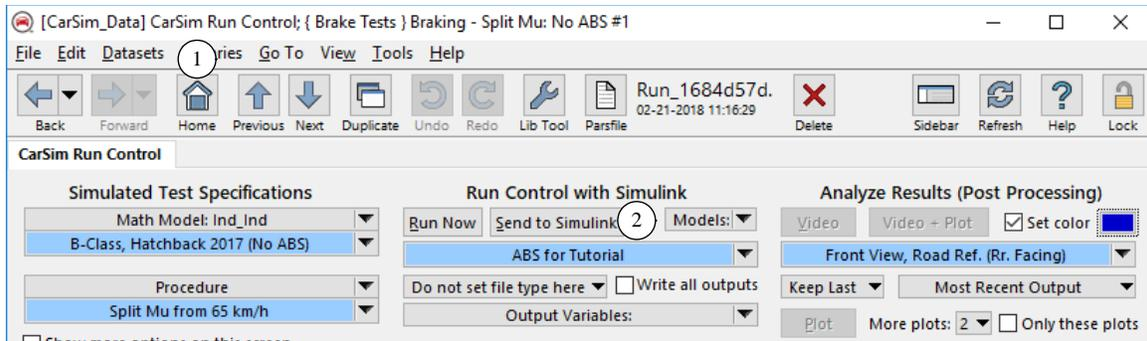

Figure 36. The Run Control dataset.
9. Return to the **Run Control** screen by clicking the **Home** button (1) (Figure 36).